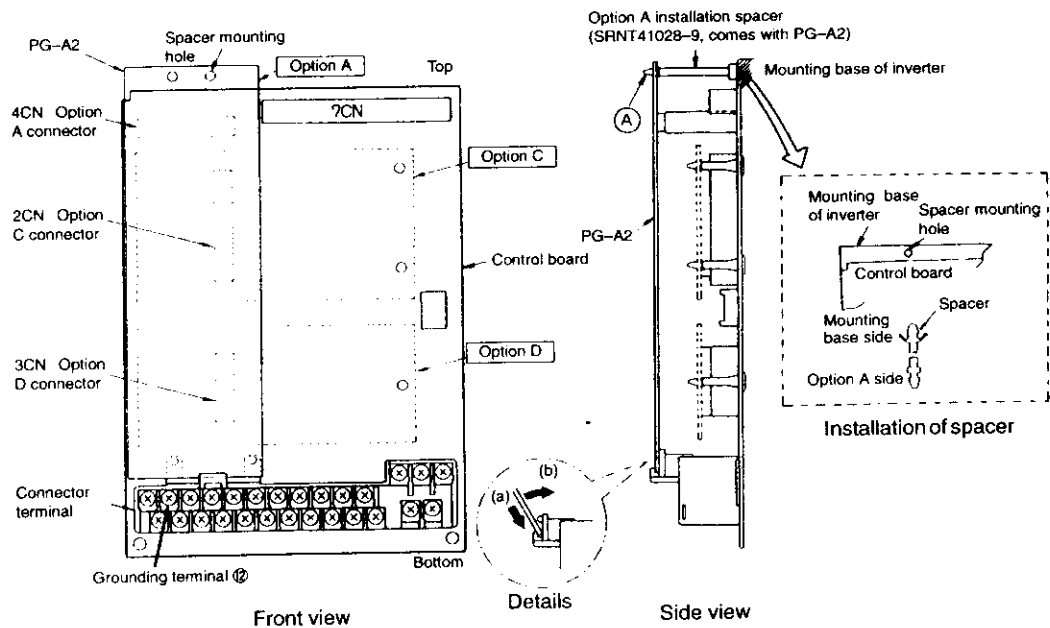

Fig. 3 Installation of PG speed control card PG-A2
2 Installing to Inverter (See Fig. 3)
- ① Turn OFF the main power and wait for the time specified on the cover of the inverter. Remove the cover and verify that the CHARGE indicator lamp is OFF.
- ② Insert the attached spacer (SRNT41028-9) into the spacer mounting hole in the mounting base of the inverter. (See Fig. 3.)